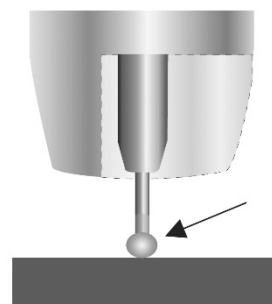

Fig. 28
2. The wire cannot support all the current flow, resistance builds up and the wire becomes hot and weak and begins to melt (Fig. 28)